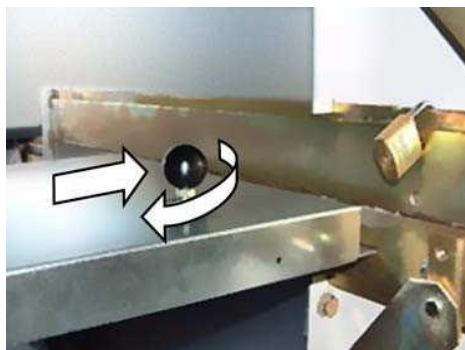

Fig64. Knob mechanism of lower shutter opening tool
- ⇒ Lock the spring mechanism by screwing the knob clockwise (fig64).